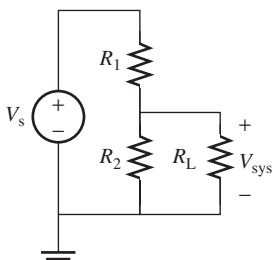

FIGURE P3.26 Circuit for Problem 3.26.
- 3.26** (H) Assume that you need to power a system from a V_s power supply, but the system requires a voltage of V_{sys} . Use voltage division as shown in Figure P3.26, express R_1 as a function of R_2 , V_s , V_{sys} , and R_L . ($V_{sys} < V_s$)